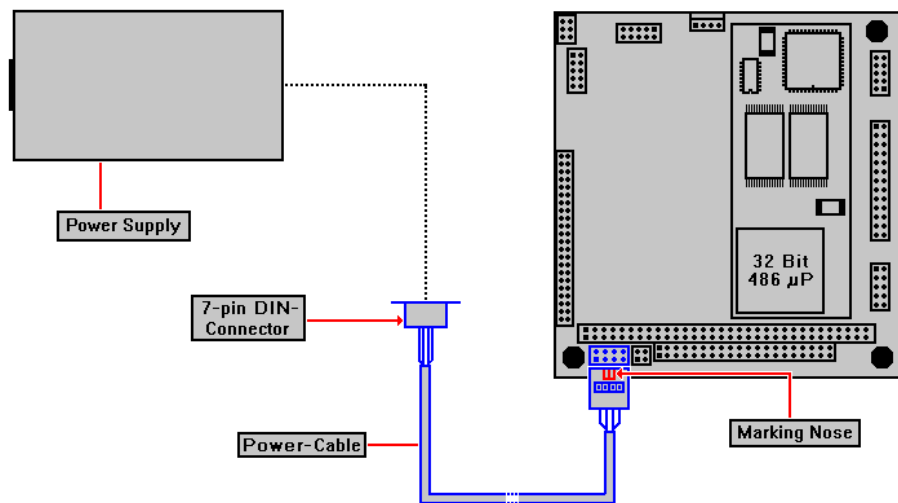

Figure 10: Installation of the power cable
At next you have to connect the 10-pin female connector with the corresponding plug connector at the CP/486SX2 base board. Figure 10 shows this step of the
- Figure 10: Installation of the power cable